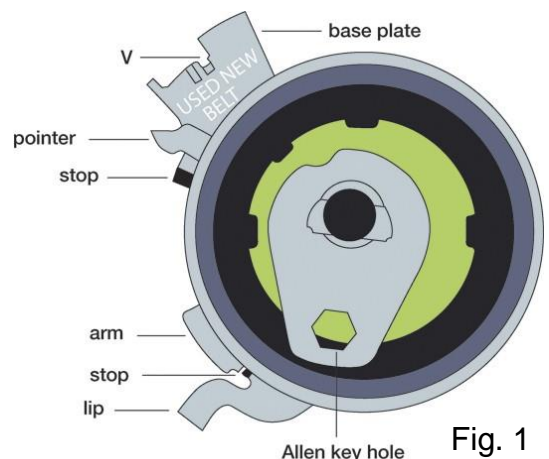

Fig. 1
- Install the new tensioner, hand tighten the bolt. The tensioner lip **has to be** in the oil pump housing slot. (The tensioner pointer has to sit behind water pump pulley). The Allen key hole **has to be set** in +/- 7 o'clock position as shown in Fig. 1.